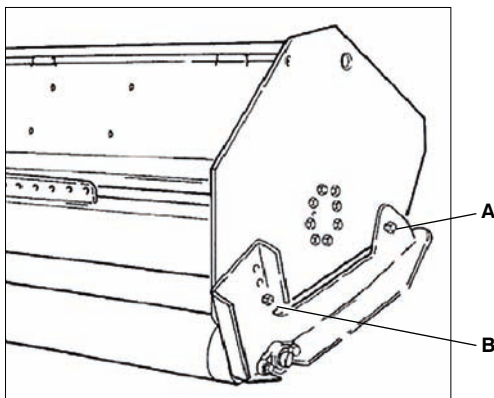

Fig. 2 Skid adjustment
1. Slacken the front bolt A (Fig. 2)